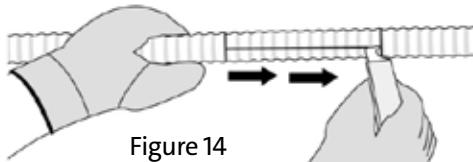

Figure 14
- Step 5:** Using the hook blade, slit the 10 cm (4 in) length of outer sheath between the ring cuts (Figure 14). Remove this section of sheath.